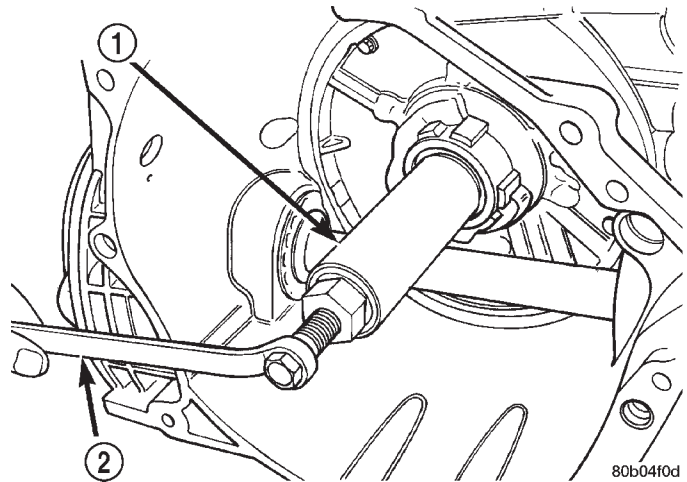

Fig. 105 Oil Seal Removal
(1) Remove the transaxle from the vehicle.
(2) Remove the torque converter from the transaxle bellhousing.
(3) Use special tool C-3981B to remove oil pump seal (Fig. 105).